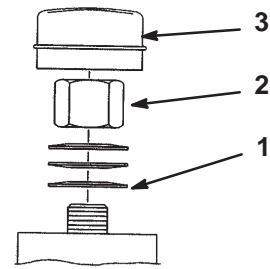

Figure 50
2. Remove dust cap from caster and tighten lock nut (Fig. 50).
3. Tighten until spring washers are flat and then back off a 1/4 turn to properly set the pre-load on the bearings (Fig. 50).
Important Make sure spring washers are installed correctly as shown in figure 50.